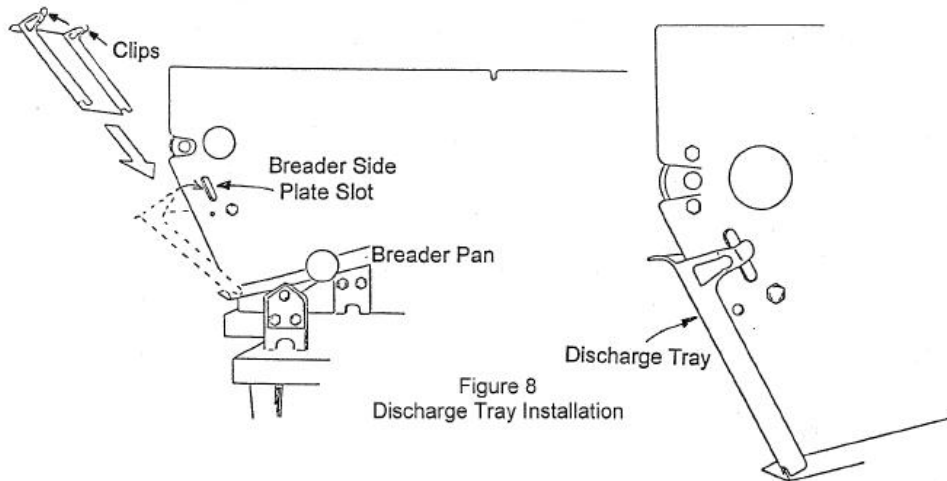

Figure 8
6.2.6 Discharge Tray Installation (See Figure 8)